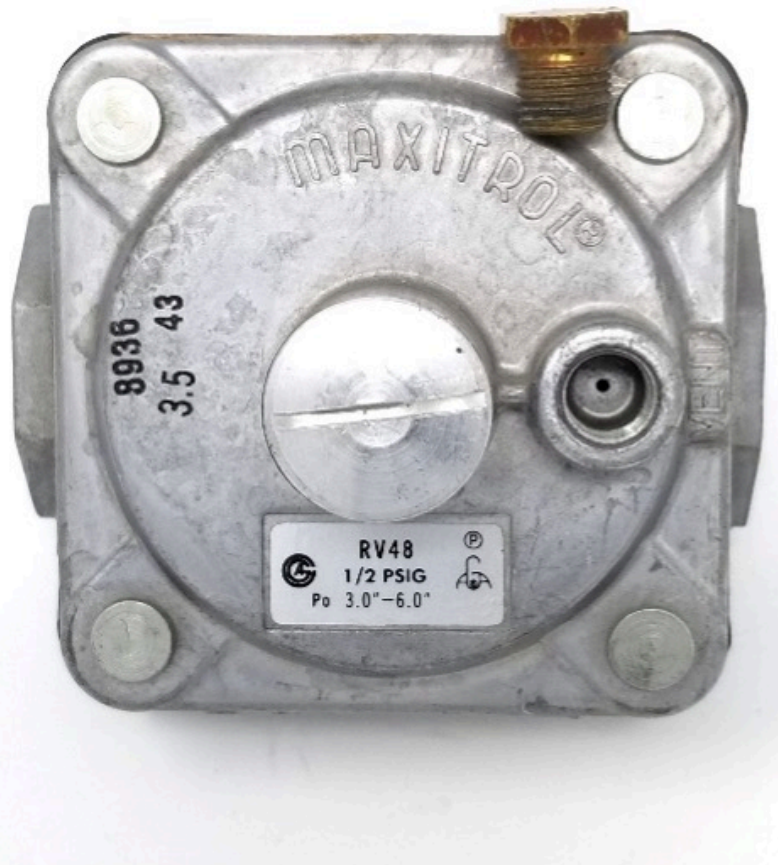

Figure 16. Bleed vent with an external vent limiting orifice
Larger regulators will have a larger bleed vent orifice to accommodate the greater amount of air that must move in and out through the bleed vent. This larger orifice will not adequately limit the escape of gas in the event of a diaphragm rupture. Therefore, when these regulators are installed indoors they must either be vented to outdoors or have some type of vent leak limiter installed. Figure 16 shows a fixed vent limiting orifice accessory sitting on the regulator, notice the regulators larger internal orifice size. The vent limiting orifice has a very small orifice opening that will restrict the air flow which will delay the regulators reaction time. To accommodate this slower reaction time the manufacture will reduce the maximum rated individual appliance capacity the regulator when using this accessory. If this regulator was required to respond at its full capacity for any single appliance then the vent limiting orifice could not be used and the vent would need to terminate outside or use an automatic vent leak limiting device.
- Figure 16. “Bleed vent with an external vent limiting orifice” by Camosun College is licensed under a CC BY-NC-SA licence (<https://creativecommons.org/licenses/by-nc-sa/4.0/deed.en>).